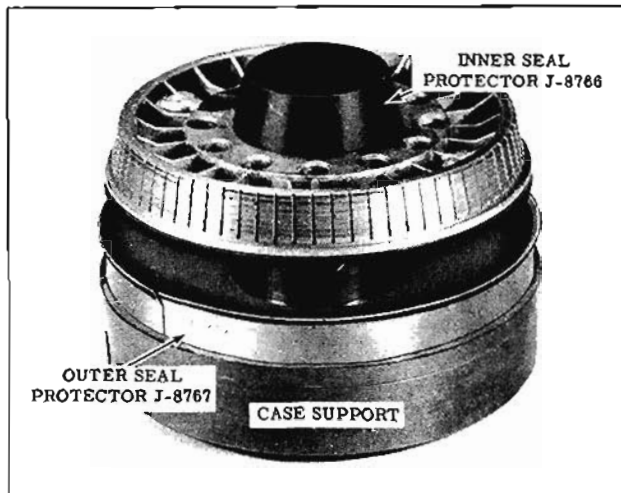

Fig. 6-63 Installing Reverse Piston
6. Install Inner Seal Protector Tool J-8766 over reverse piston hub and install Reverse Outer Seal Protector Tool J-8767 into case support. (Fig. 6-63)